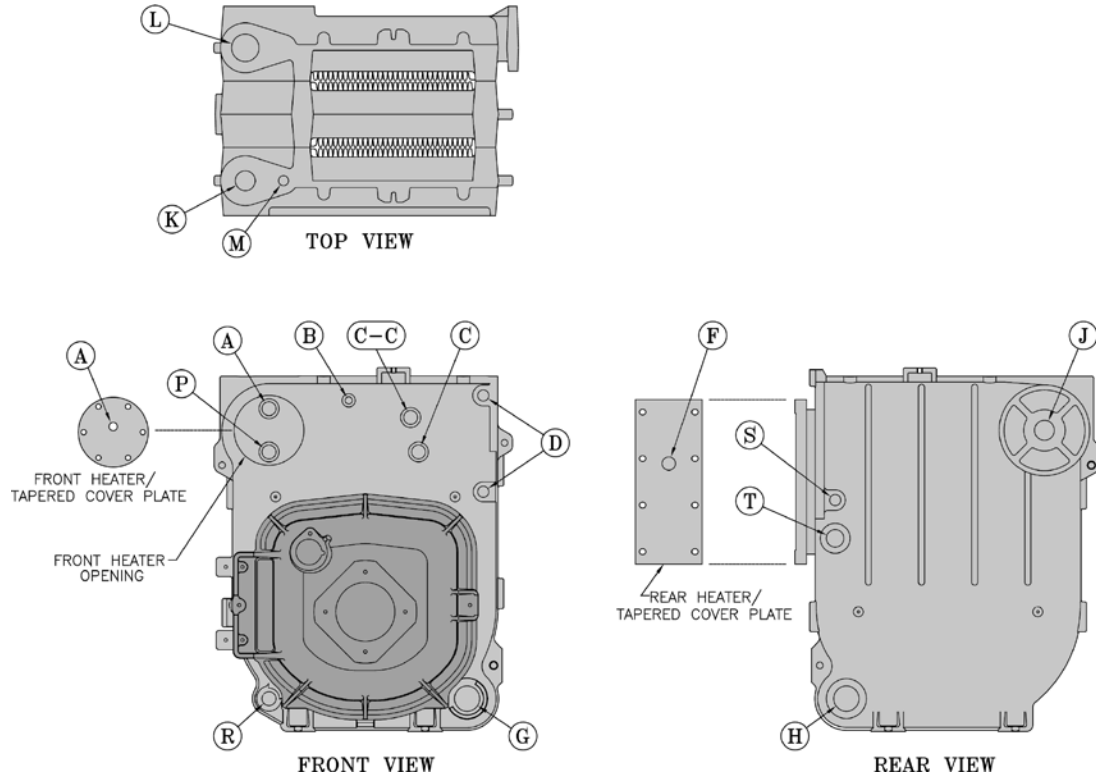

Figure 5: Boiler Tapping Locations and Usage (Knockdown Boilers Only)
Remove gauge, valve and plugs from those tappings to be used. Leave other tappings plugged or bushed according to Figure 5.
H. INSTALL TRIM. The following steam or water trim will be concealed or inaccessible after boiler jacket is installed, see Figure 5 for boiler tapping locations and usage.